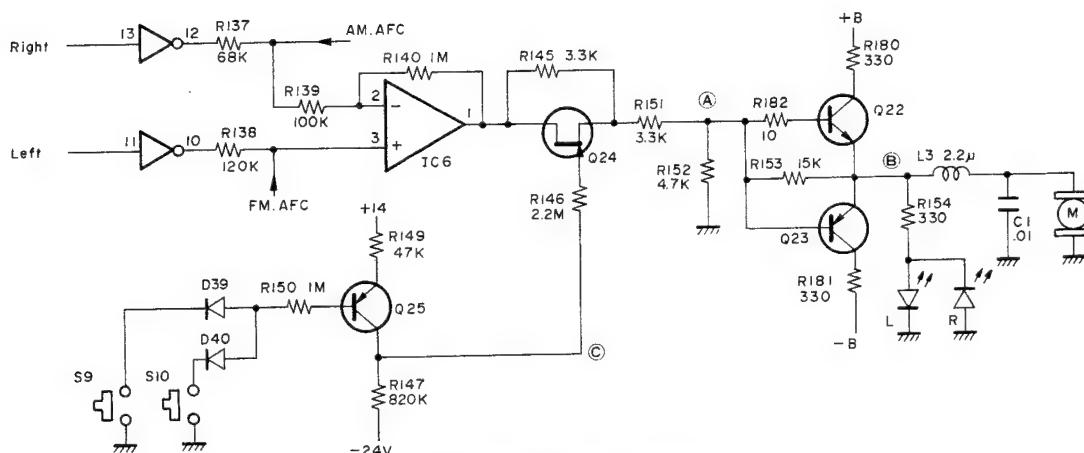

Fig. 3 Motor Drive Circuit
When S9 or S10 is released, Q25 is OFF and Q24 is OFF. Therefore, the output voltage divided by R145, R151 and R152 appears at point (A). In this case, the motor rotates at low speed. That is, changing the base current of Q22 or Q23 controls the motor's speed. Table 2 shows voltages of points shown in figure 3.
The S curve signal shown in figure 8c is applied to the source of Q20. When Q16 is ON, the collector level is + 14 V. Therefore, Q20 is ON and the S curve signal is applied to the motor drive circuit (figure 3) through R123.